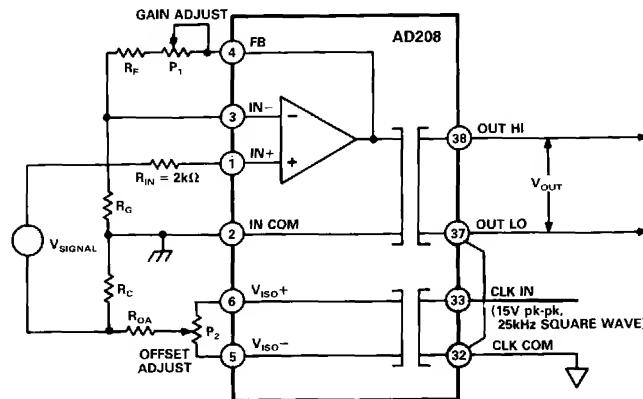

Figure 31. Input Adjustment Circuit for the Noninverting Mode of Operation
Offset Adjustment. Figure 31 shows the suggested input adjustment connections when the isolator's input amplifier is configured for the noninverting mode of operation. The offset adjustment circuit injects a small voltage in series with the low side of the signal source. The adjustment potentiometer P_2 is responsible for nulling out the offset voltage. A 100 $\text{k}\Omega$ P_2 , 50 $\text{k}\Omega$ R_{OA} and a 100 Ω R_C should provide an offset adjustment range (Referred to Input) of about ± 15 mV. Since the offset is zeroed out ahead of the gain, the values given above for P_2 , R_{OA} and R_C should work for any gain on the isolator.
- To minimize CMR degradation it is recommended that the resistor R_C (shown in Figure 31) be below a few hundred ohms.
- The offset adjustment circuit of Figure 31 will not work if the signal source has another current path to input common, or if current flows in the signal source LO lead. If this is the case, use the output adjustment procedure.
Gain Adjustment. Figure 31 also shows the suggested gain adjustment circuit. Note that the gain adjustment potentiometer P_1 is incorporated into the gain-setting resistor network at the isolator's input.